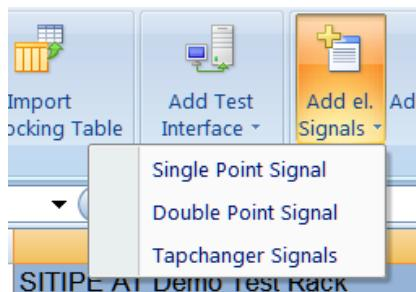

Figure 115 Add electrical Signals Menu
- Menu Add Electrical Signals, to add signals connected to a USB PTM to a Test Object. Select the preferred Signal Type in the Menu. It is shown in Figure 115.